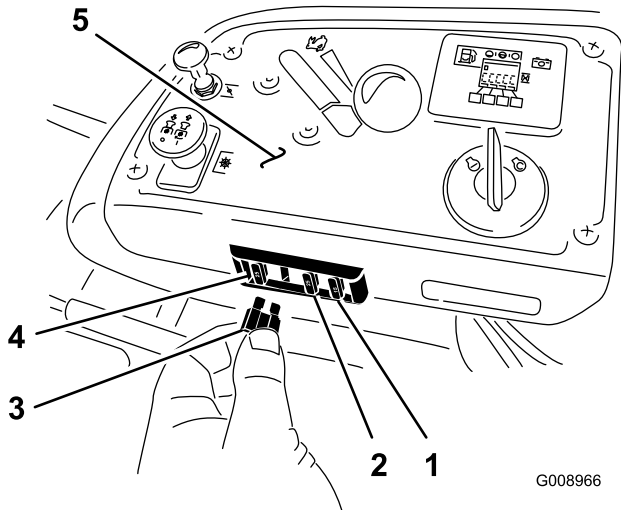

Figure 75
The fuses are located on the console to the right of the seat (Figure 75).
2. Install a new fuse (Figure 75).